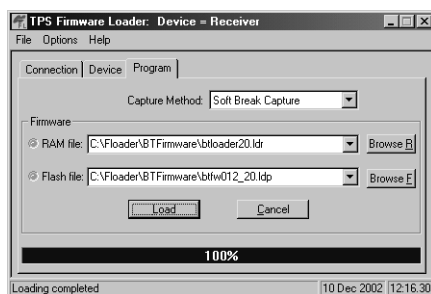

Figure 4-24. Bluetooth Firmware Load Complete
5. Click **Load** and wait until 100% of the files load into your receiver (Figure 4-24).